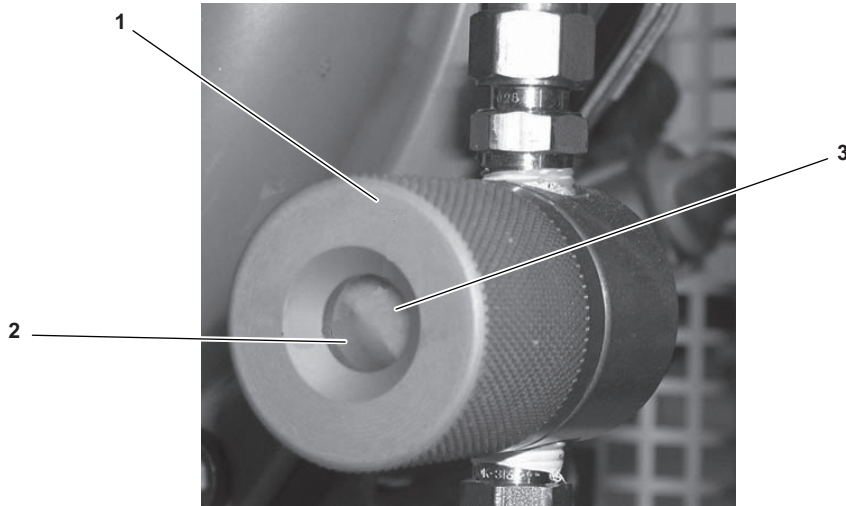

Figure 2-11. CO/H₂O Indicator
- a. Visually inspect the CO/H₂O indicator (figure 2-11, item 1). The indicator should be blue (figure 2-11, item 2) and light tan (figure 2-11, item 3), indicating that there is no CO or H₂O present in the system.